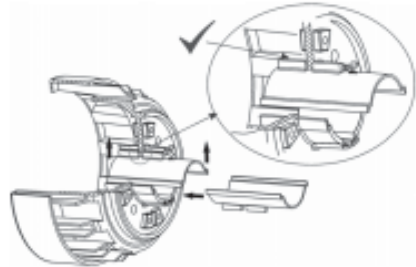

Fig. 8.3.2 A - Assembly of the sockets
- Insert the correct sockets couple (see appendix A), take care that the groove placed between the socket keys is fitted in the drive magnet assembly, this placement guarantees the correct assembling and the unfitting of the sockets (Fig. 8.3.2 A).